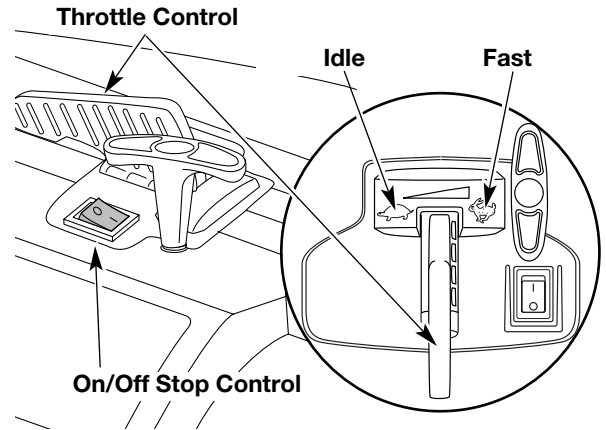
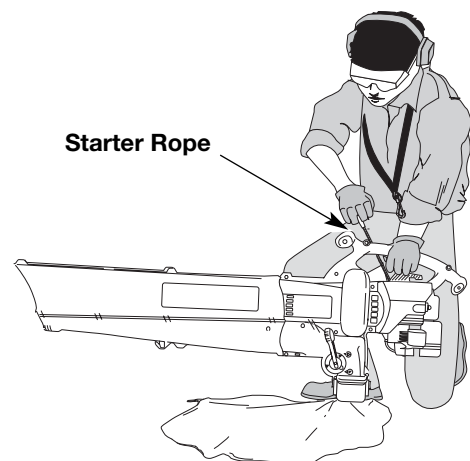

Fig. 9
Fig. 11
WARNING: Avoid accidental starting. Make sure you are in the starting position when pulling the starter rope (Fig. 11). To avoid serious injury, the operator and unit must be in a stable position while starting. Do not set unit on any surface except a clean, hard area while starting. Debris such as gravel, sand, dust and grass could be picked up by the air intake and thrown out by the discharge opening. This could damage the unit, property, or cause serious injury to bystanders or the operator.
4. Place the unit in the starting position (Fig. 11). Move the throttle control to the idle position (🐢) (Fig. 9).